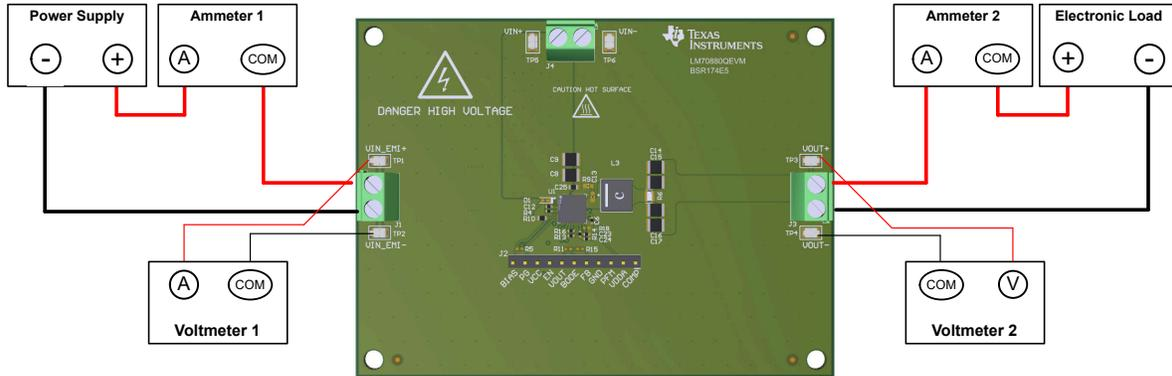

Figure 2-1. EVM Test Setup
Referencing the EVM connections described in Table 2-1, the recommended test setup to evaluate the LM70880-Q1 is shown in Figure 2-1. Working at an ESD-protected workstation, make sure that any wrist straps, boot straps, or mats are connected and referencing the user to earth ground before handling the EVM.
1. Prior to connecting the DC input source, set the current limit of the input supply to 0.1A maximum. Make sure the input source is initially set to 0V and connected to the VIN+ and VIN– connection points as shown in Figure 2-1.